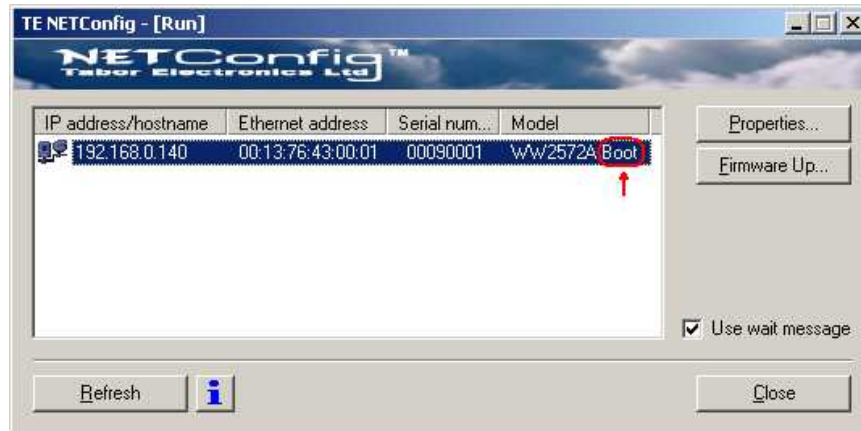

Figure 7-6, WW2074 has been Detected on the LAN Network
5. As soon as the progress bar reached the far right hand of the bar, click on the Refresh button. If your device was connected and booted correctly, the device address will appear in the device list, as shown in Figure 7-6.